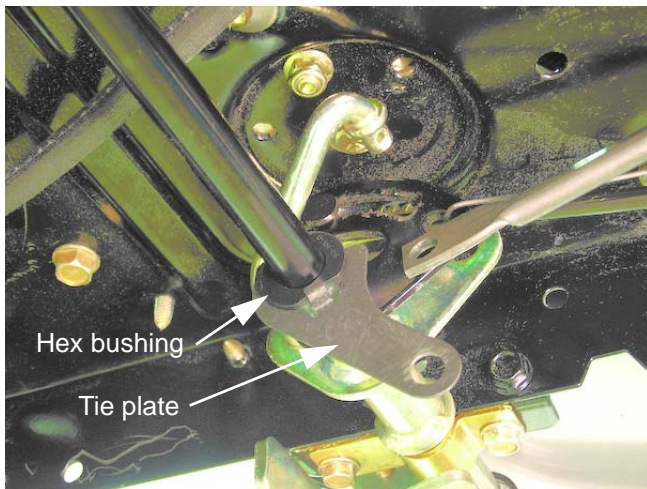

Figure 5.30
3. Slip the tie plate off of the "cobra-head" arm, and pivot it downward. See Figure 5.30.